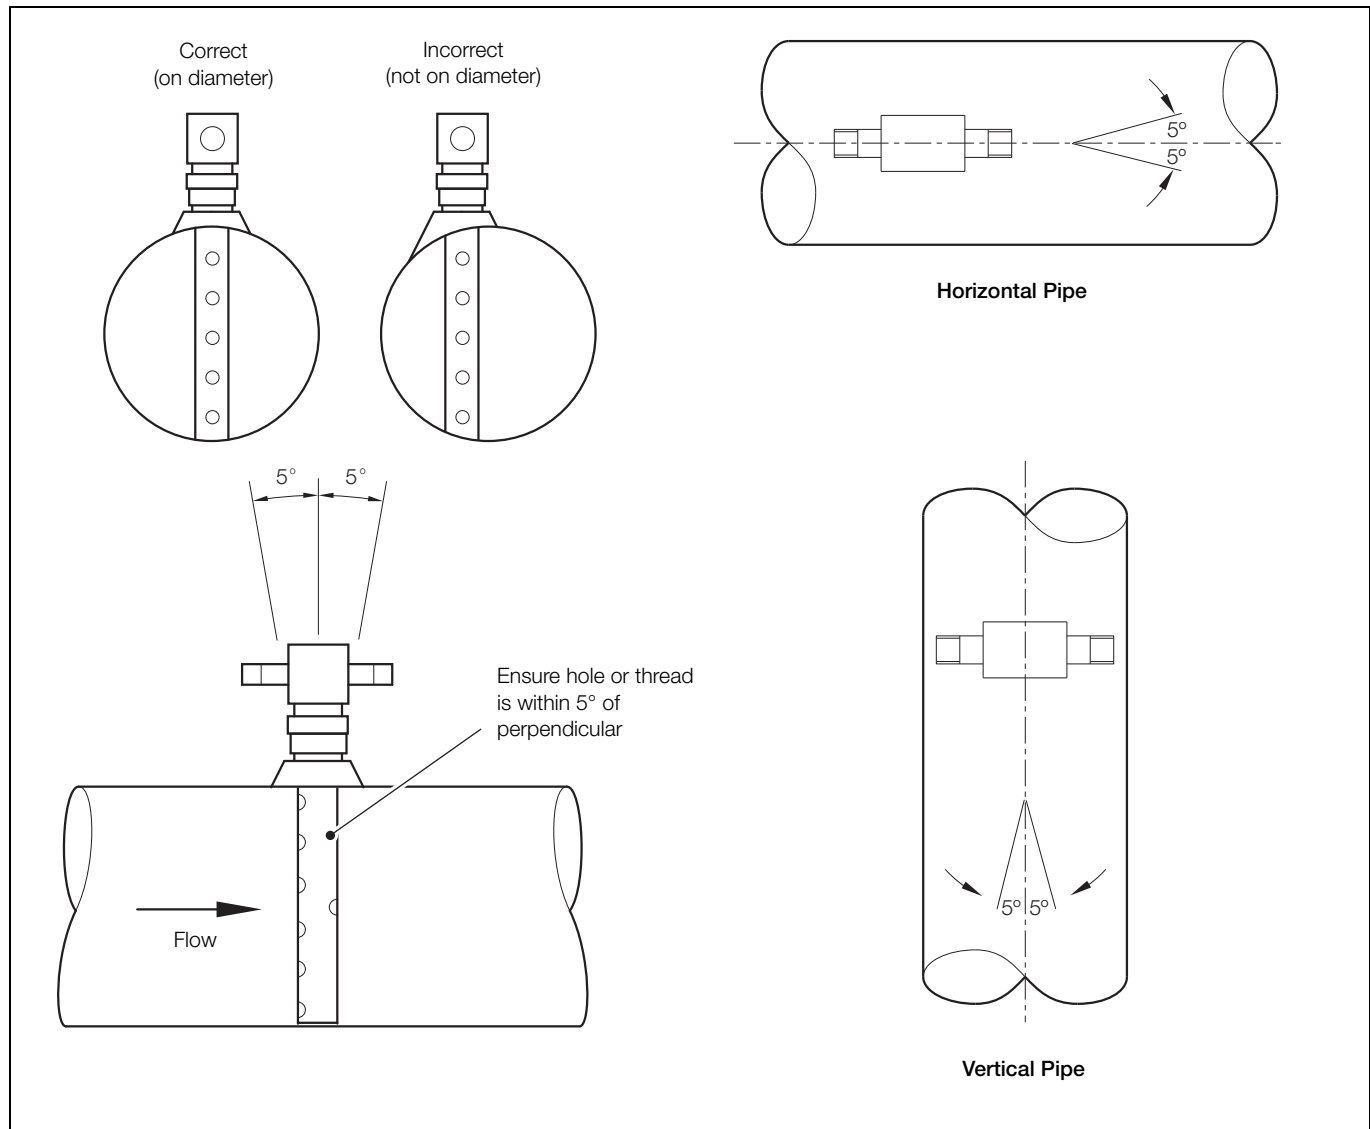

Fig. 2.2 Torbar Alignment
4. Using a suitably sized and threaded length of pipe, check the threaded fitting is concentric and aligned correctly – see Fig. 2.2, page 4.